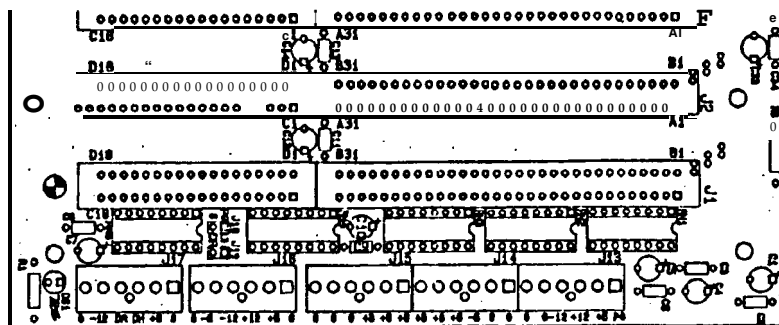

Figure 1. Computer Power Supply
15. Using your DVM (Digital Voltmeter), check the following Power Supply voltages: +5V *0.05 V, +12V *1.2 V and -12V *1.2 V at the MCA Computer's Passive Backplane Board (see Figure 1 for locations where to measure Power Supply voltages). If the +5V is out of tolerance, adjust R48 on Computer Power Supply until reading is within tolerance.